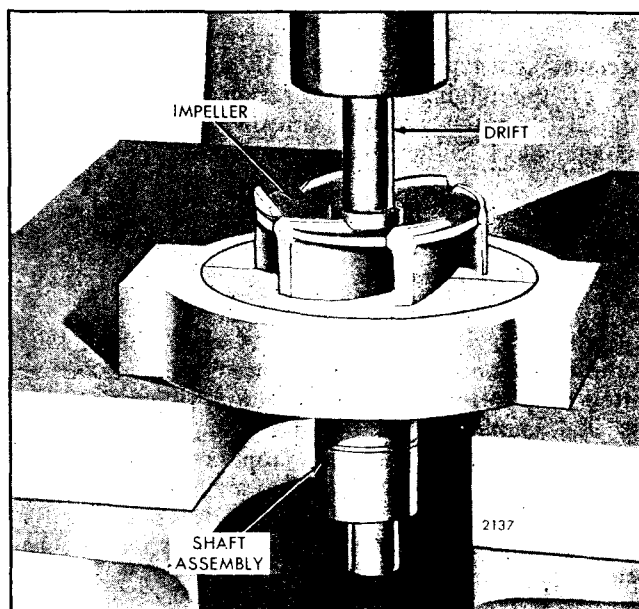

Fig. 4 - Removing Shaft from Impeller with Tools J 8329 and J 358-1
4. Press the end of the shaft out of the impeller as shown in Fig. 4, using plates J 8329 and holder J 358-1.